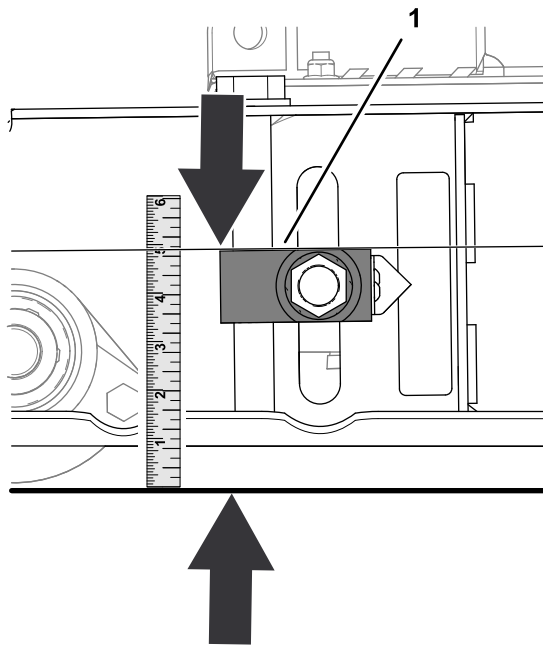

Figure 75
2. Measure the distance between top of adjuster block to the ground (**Figure 75**).